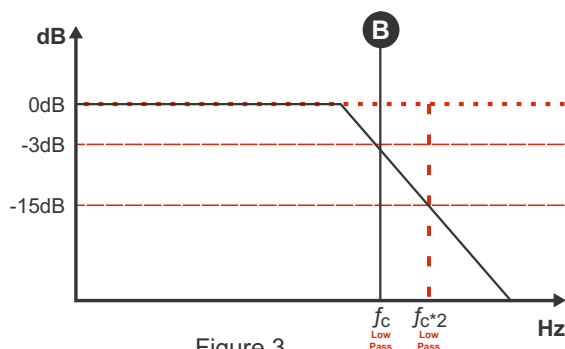

Figure 3
To use the low pass filter as in "Figure 3", select the key in the "ON" position and the variable control "HIGH" at the frequency where you want to filter between 50Hz and 500Hz (B).